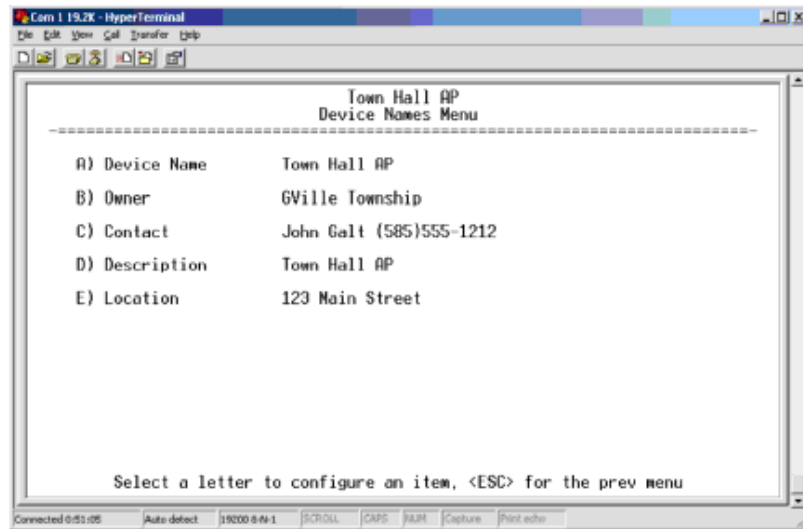

Figure 2-12. Device Names Menu
- **Device Names Menu**—Fields used at user’s discretion for general administrative purposes. The Device Name field is used by the transceiver as the “Realm” name for network security and in the MS screen headings. (See Figure 2-12 on Page 36)